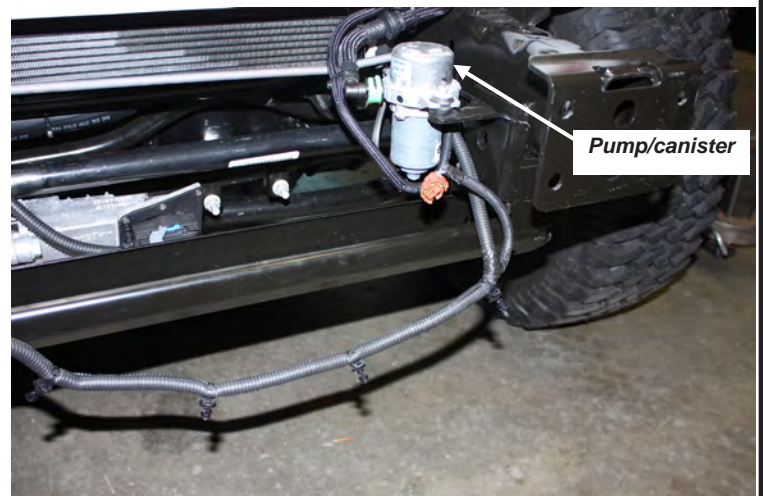

Figure 4
2. Unplug the factory fog lamps if equipped. Detach the wire harness from the bumper. Figure 4.